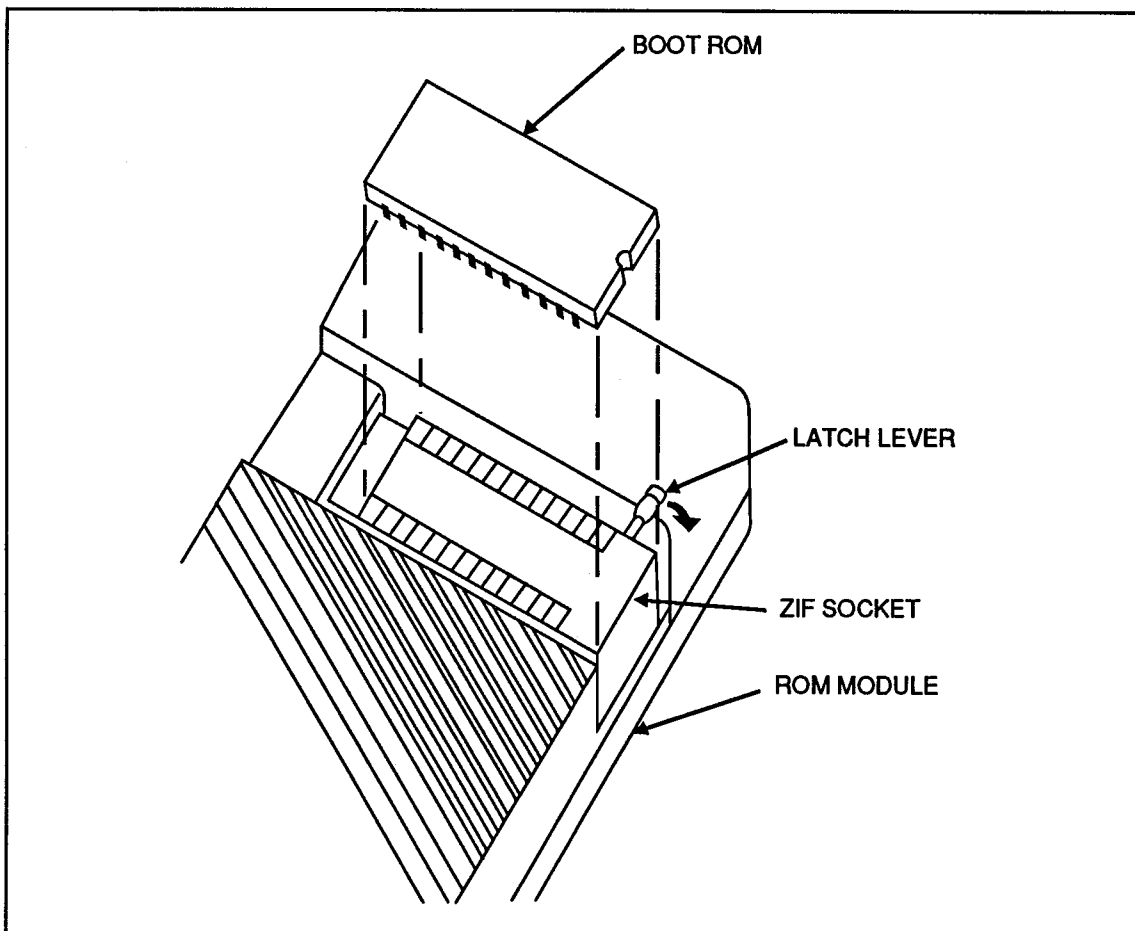

Figure 2-7. Inserting UUT ROMs Into the ROM Module
3. If necessary, disassemble the UUT to gain access to the ROM sockets. If the ROMs are still in the sockets, remove them. Place the ROMs into the ZIF sockets on the ROM Modules (ROM 1 into ROM Module 1, ROM 2 into ROM Module 2, etc.) as shown in Figure 2-7.